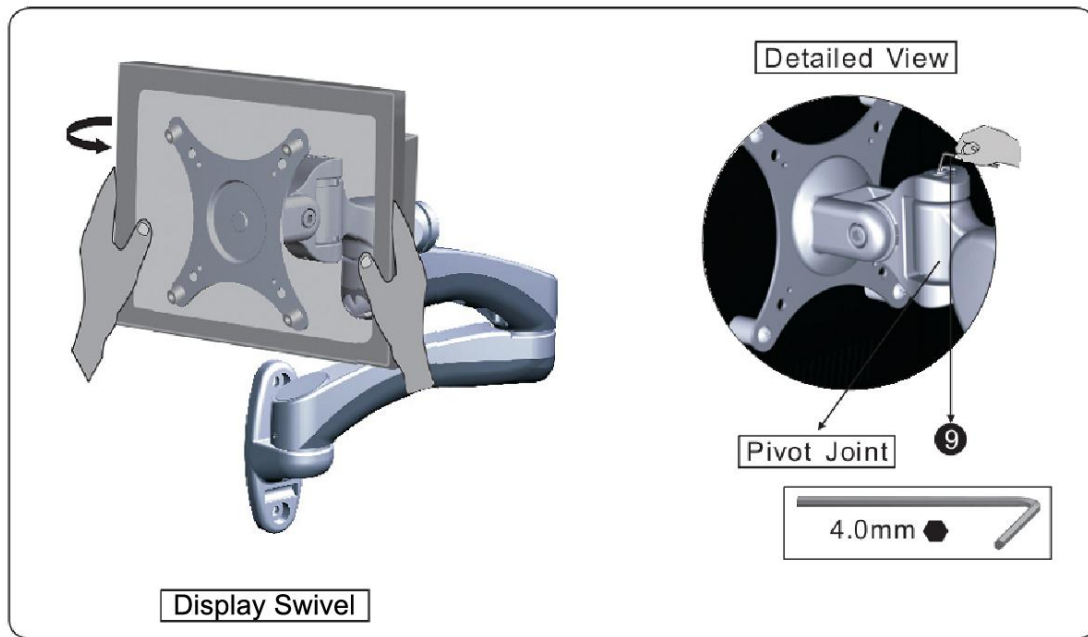

Figure 5-3
4. To increase or decrease the resistance of the Pivot Joint to suit display monitor swivel, adjust the Tension Hex Cap Screw located on the front side of the Wall Mount LCD Arm to secure the position **(See Figure 5-3)**.